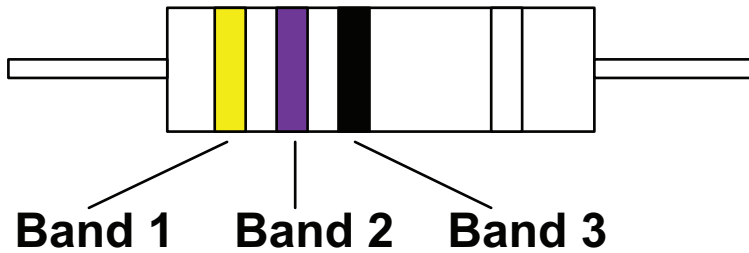

Fig. 10
- 8 The resistor in **Fig. 10** has the following colours for the first three bands.
(i) Given that the two resistors **R1** and **R2** in this circuit have the same value as the resistor shown in **Fig. 10** state the expected voltage output at point **X** in this circuit. [1 mark]